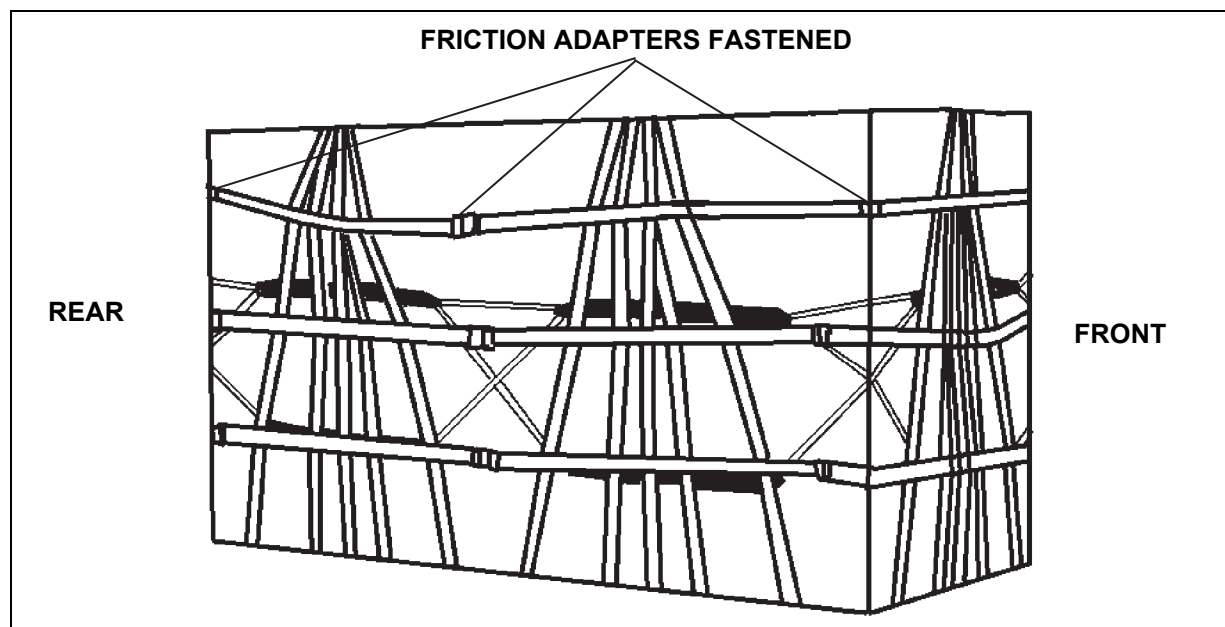

Figure 8-15. Sling Assemblies Fastened
- Lay the remaining portions of the sling assemblies over the load. Route the lateral straps through the friction adapters. Tighten the center friction adapters and Type VIII nylon webbing so the middle suspension web on each container is vertical. Install a knot in the running ends of the Type VIII nylon webbing about 3 inches from the friction adapters. Apply equal tension on the remaining lateral straps. Fold and secure the excess webbing with 1/4-inch, Type I cotton webbing (figure 8-15).